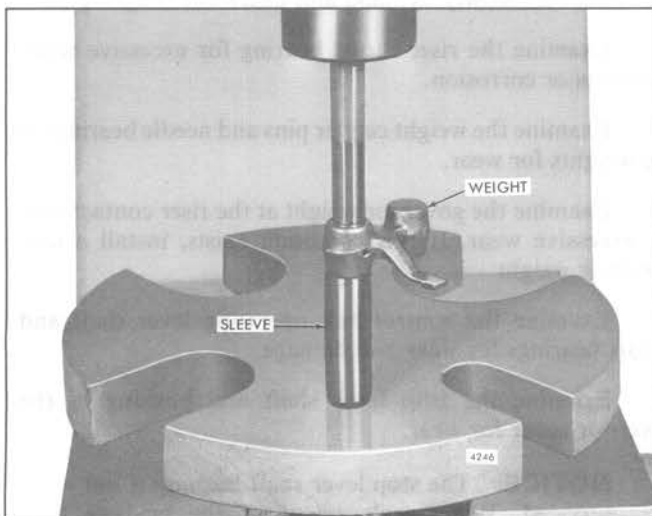

Fig. 12 – Removing Governor Weight Bearings using Tool J 8985
- d. If removal of the needle bearing is necessary, support the weight on a 5/8" inside diameter sleeve on the bed of an arbor press (Fig. 12). Place the bearing remover J 8985 on top of the bearing and press both bearings out of the weight.